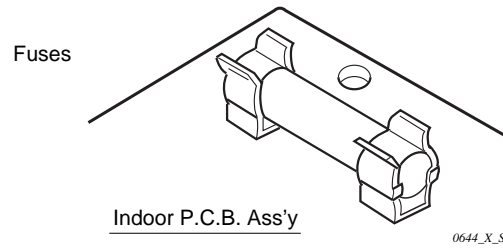

Fig. 48
⑤ Fuse on indoor P.C.B. Ass'y
- Remove the P.C.B. Ass'y from the electrical component box. Then pull out the fuse from the P.C.B. Ass'y. **(Fig. 48)**